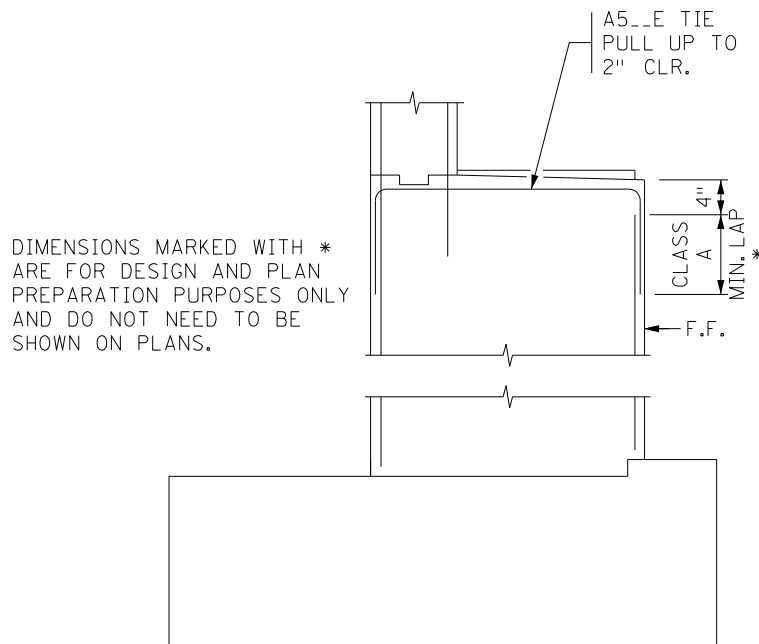

Figure 4
6. Leave the front face vertical bar 4" short of top of wall (or seat) or more as required to account for a sloped top surface. Extend length of A5_E abutment seat tie to ensure proper lap length. Space abutment seat tie bars with the verticals. Use a series if the slope is extreme. Otherwise, keep verticals to a single length. Some laps will exceed the minimum. (See Figure 4.)